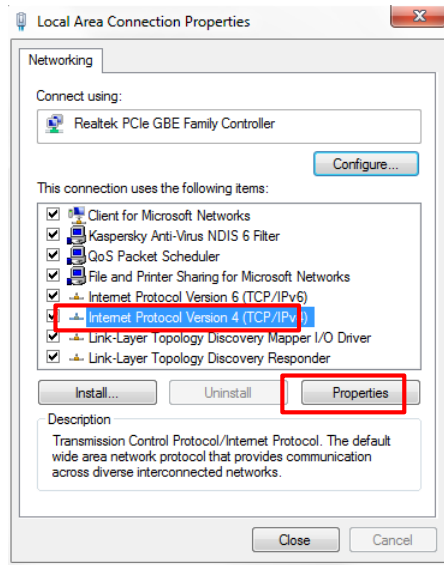

Figure 4-18: Internet Protocol Version 4 (TCP/IPv4)
5. Double click **Internet Protocol Version 4 (TCP/IPv4)**, or highlight **Internet Protocol Version 4 (TCP/IPv4)** and select **Properties** as shown in Figure 4-18.